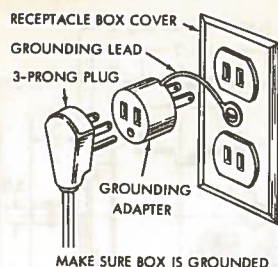

Figure 6
**CAUTION:** Many existing receptacle boxes do not have provision for 3-prong plugs and for this reason an adapter is included with the motor. (This adapter is not used in Canada.) To use the adapter, connect the grounding lead to the box before operating motor (See figure 6).